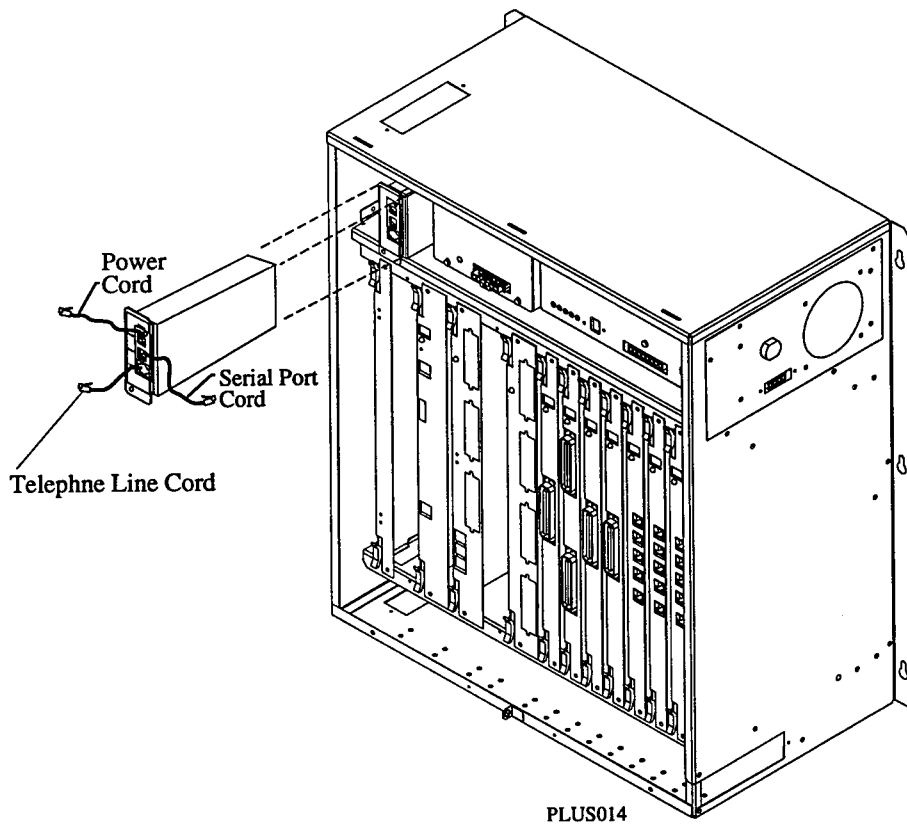

Figure 1. Installing The Modem In The Main Cabinet
The following procedure explains how to install the serial data modem. Figure 1 illustrates the relative position of the modem and the location of its connections. The modem fits on the left side of the equipment shelf.
2. Insert the modem as illustrated in Figure 1.